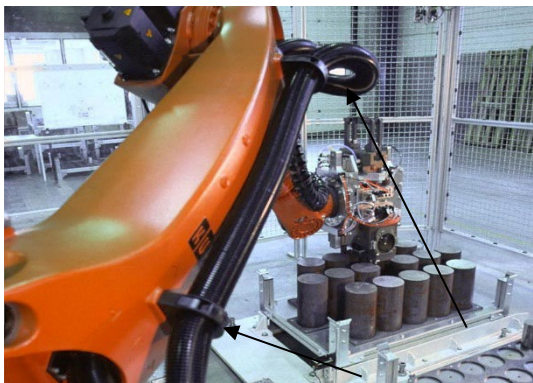

Figure 3
- For specific applications which demand a bending radius which is close to the limit and/or for excessively dynamic movements of the industrial robot, the heated hoses must be protected with hose protection springs or the like (see figures 3 and 4).